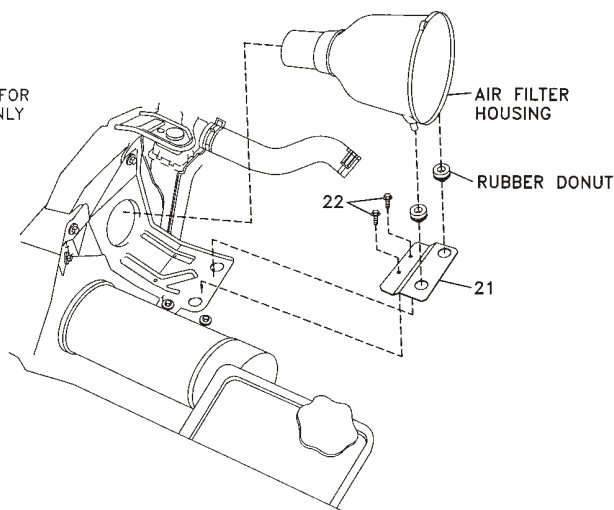

FIGURE 8. F350 V8/GAS CLUTCH PUMP INSTALLATION
3. Remove the fan shroud and fan. Repositioning the air cleaner, are for the 5.4L engine only. Refer to fig. 8. If you have the 6.8L engine, discard the DewEze air cleaner bracket (21).
5. Remove the rubber donuts from the OEM air cleaner support and place them in the holes in the DewEze air cleaner bracket (21). Hold this bracket on top of the OEM support placing the small holes in the DewEze bracket in between the large holes in the OEM support. Run the 3/16 x 3/4 self-tapping screws (22) through the small holes into the OEM support.
8. Mount the crank pulley (16) to the damper using three M10 x 60 bolts (17), 10mm lock washers (18), and 3/8 flat washers (19).
9. Bolt the pump (6) to the rear of the mounting bracket (1) using two 3/8 x 1 1/4 bolts (13) and two 3/8 flat washers (14). Attach the clutch coil (7) to the front of the bracket using four flange bolts supplied with the clutch. Insert the coil wire through the 1/2" hole right above the coil to keep it from contacting the clutch pulley.
10. Attach the flat idler pulley (3) to the tensioner arm (2) with the 7/16 x 1 3/16 flange bolt (10). Mount the tensioner assembly on the pump bracket at location E with one 1/2 x 3 1/2 bolt (12), inserting the bolt head on the back of the tensioner into the small hole on the tensioner mounting pad.
11. Insert an M10 x 60 bolt (11) through an idler bushing (15) and into a serpentine idler also. Mount one idler onto the boss at location D and the other idler on the boss at location G.
12. Mount the pump bracket onto the engine at locations A, B, and C with the three M10 x 110 bolts (8) with 3/8 flat washers (14). Torque these bolts to 30-41 ft/lbs.
13. Bolt the wiring harness holder to the back of the pump bracket at location F using a 5/16 x 3/4 bolt (9).